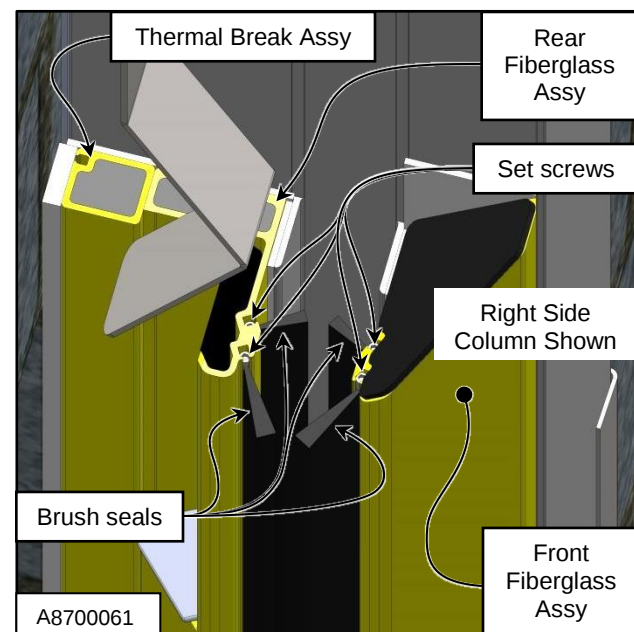

Figure 54
3. Remove screw(s) from the top of the brush seal. (See Figure 54)
4. Remove the old brush seal by sliding it out of the track. (See Figure 54)
6. Re-Install screw(s) into the track to lock the new brush seal in place. (See Figure 54)